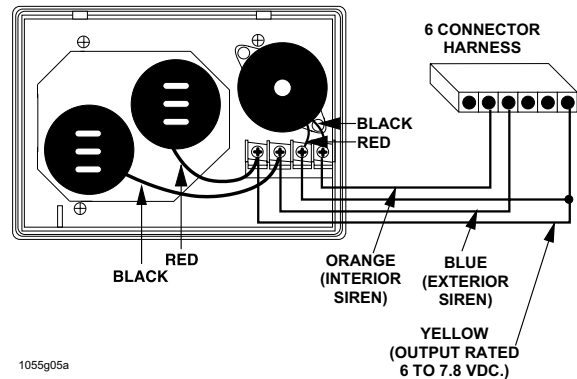

Figure 5. Wiring from the Siren to the Panel Connector Harness
2. Make wiring connections between the siren and the panel as shown in Figure 5.